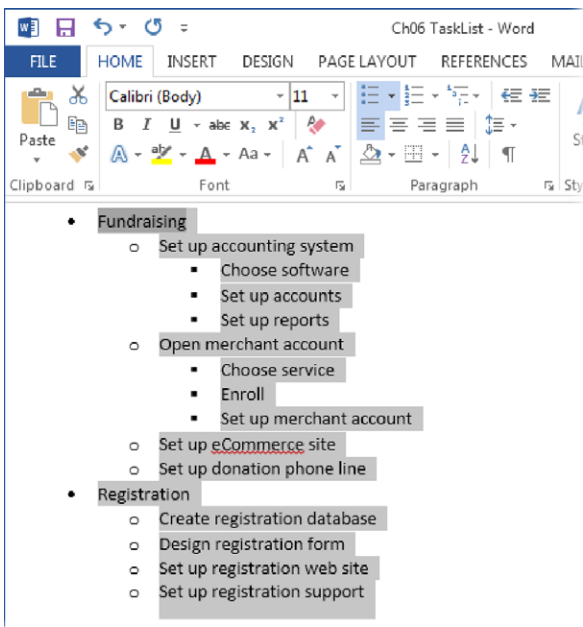

FIGURE 6-5
2. **Select the tasks you want to paste into Project, as shown in Figure 6-5 (top), and then press Ctrl+C.**
Project inserts the task names into the Task Name cells and indents the tasks to the same levels they were at in the Word document or Outlook email, as shown in Figure 6-5 (bottom).